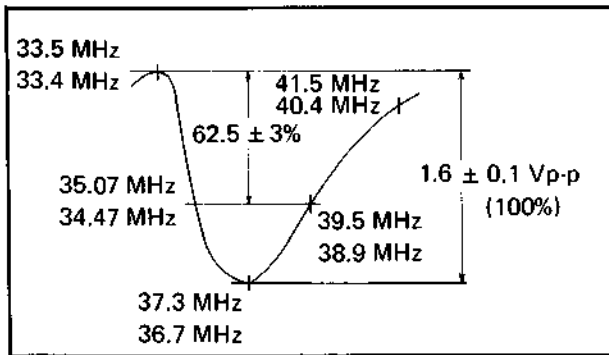

Fig. 6-50
14. Make sure that the waveform looks that shown in Fig. 6-50.